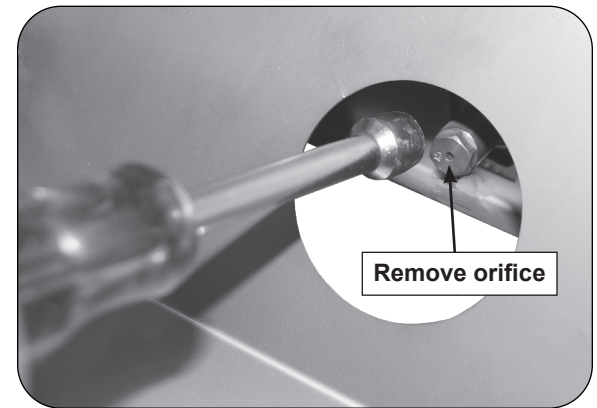

Fig. 42-2 Remove orifice to convert/check
4. Using a 3/8" socket, remove the orifice from the orifice holder (see Fig. 42-2 and Fig. 42-3) and check the number stamped on the face.